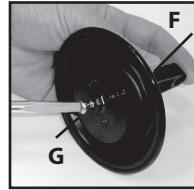

Figure 4
- To replace the diaphragm, remove the connecting rod retaining screw (G) from the plunger and lever (F). Replace the diaphragm and reassemble. See Figure 4.